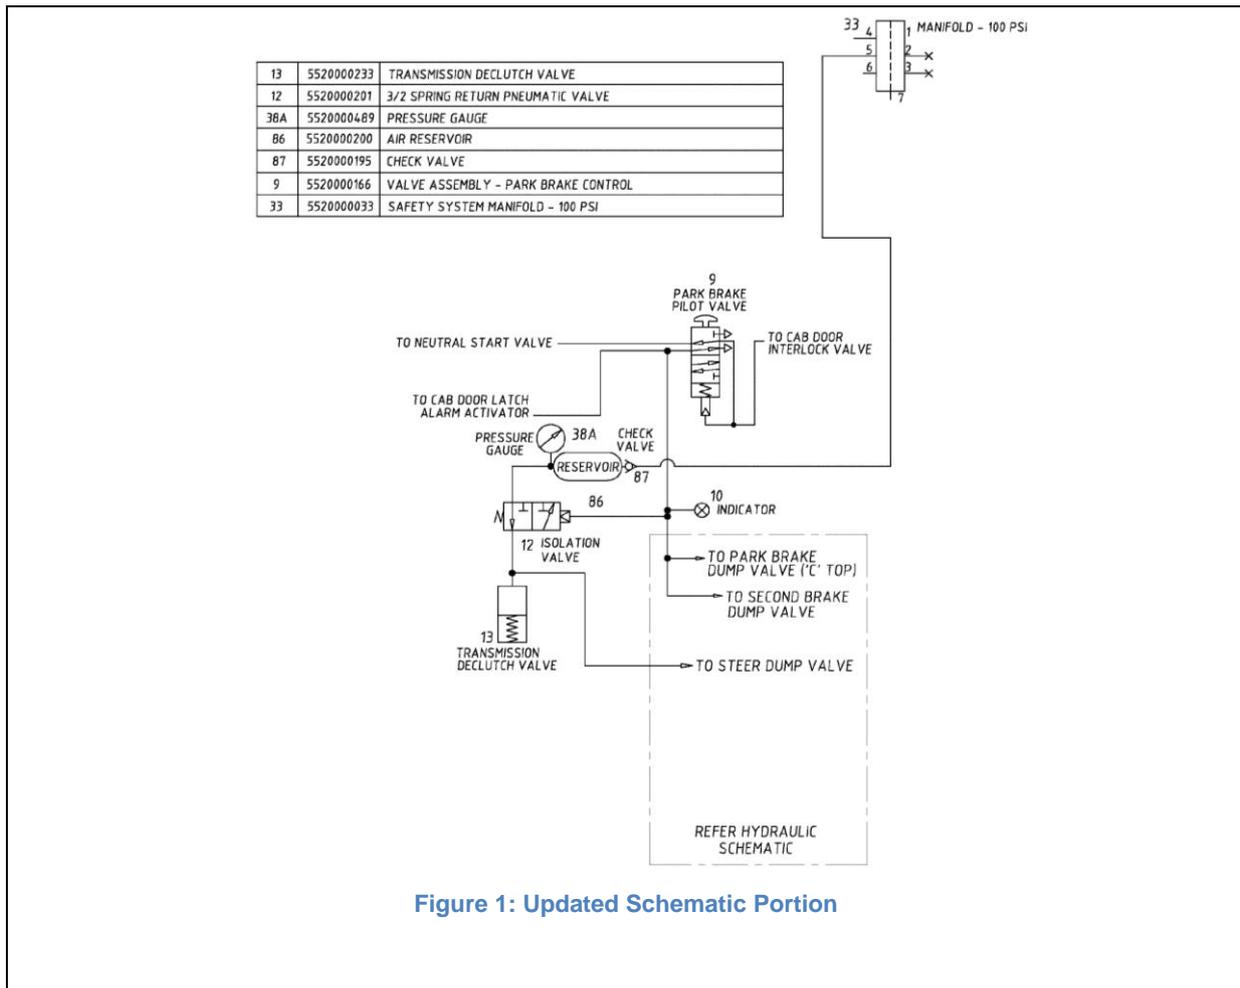

Figure 1: Updated Schematic Portion
1. Referring to figure 1 above it is recommended to install items 38A, 86 and 87.